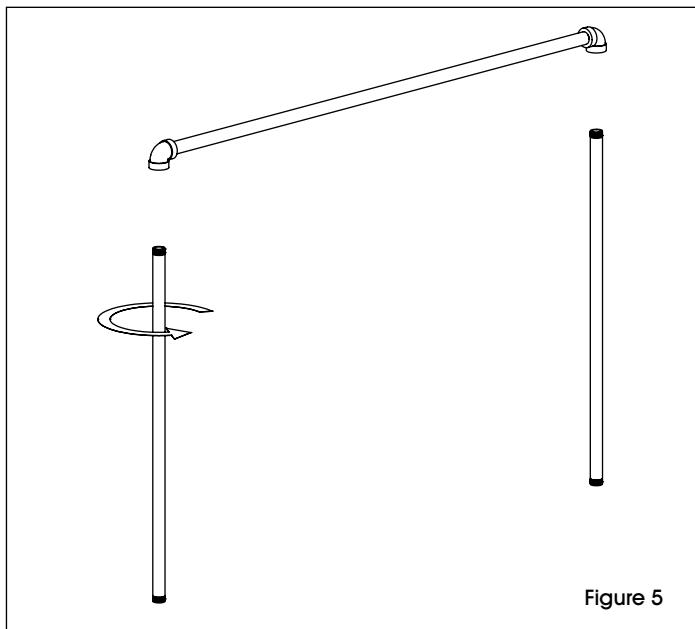

Figure 5
5. Twist each top upright into hangbar. (See Figure 5)